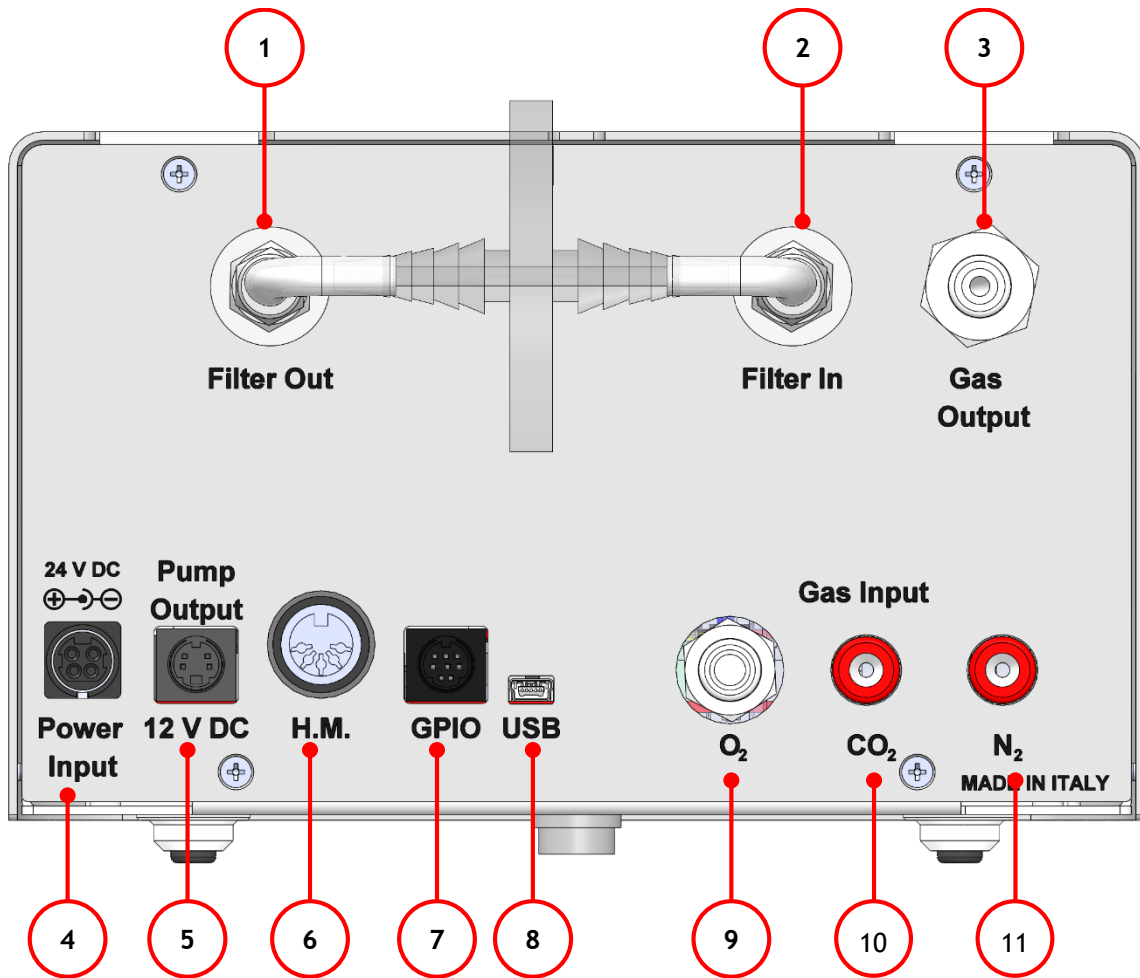
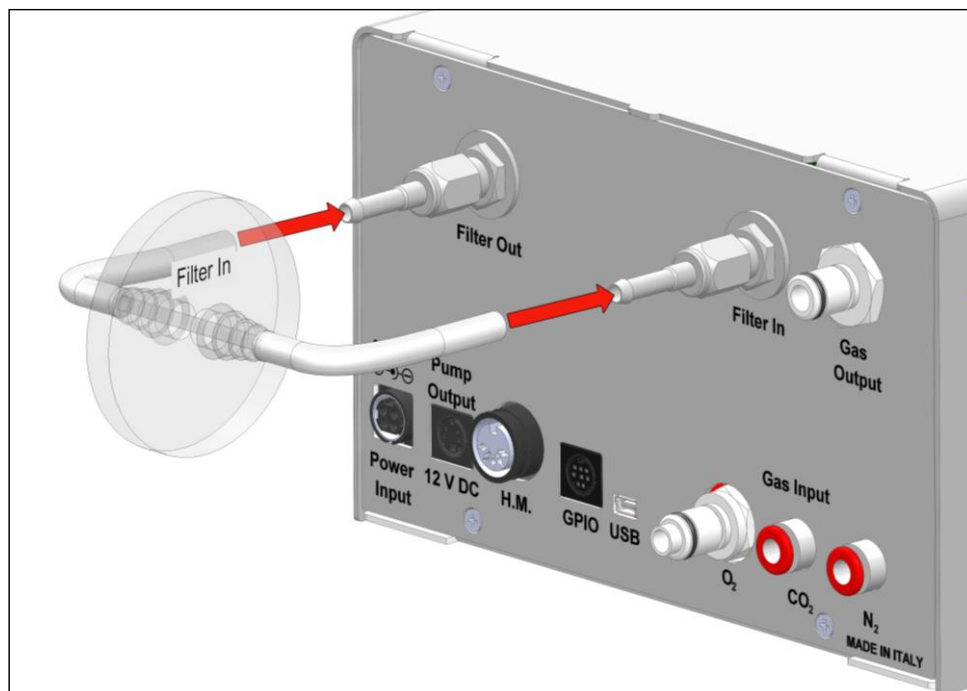
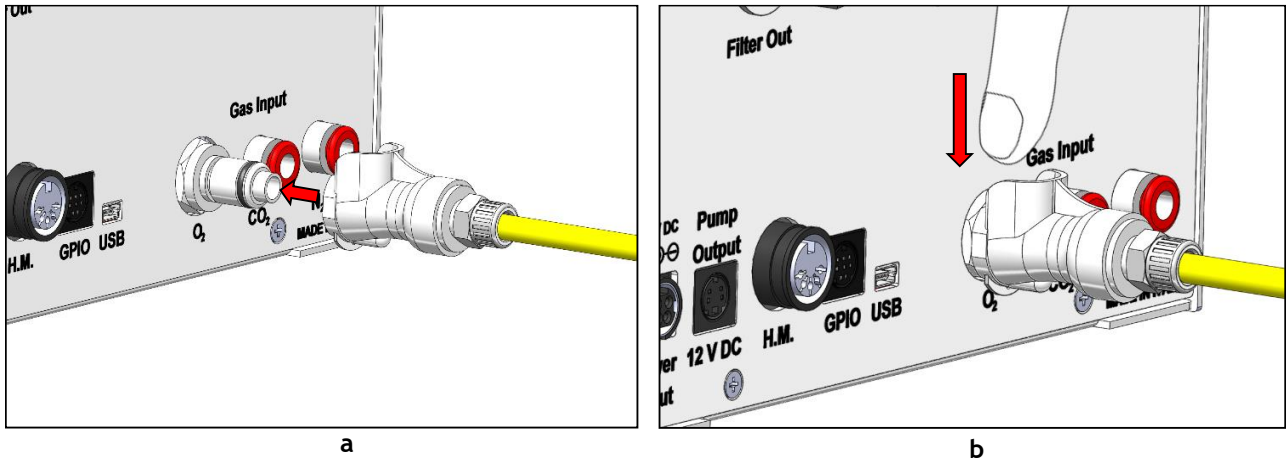

Figure 5. Gas Controller Rear Panel Overview.
Figure 9. How to install TUBE-CB.
Figure 11. How to connect (a) and disconnect (b) tubings from valved in-line connectors.
Figure 5 illustrated CO2-O2-UNIT-BL [0-20; 1-95] rear panel:
2. Install the **TUBE-CB** on the rear panel of CO2-O2-UNIT-BL [0-20; 1-95]. It filters the mixed gas before it enters in contact with CO2-O2-UNIT-BL [0-20; 1-95] gas sensors. Connect the TUBE-CB with the *Filter In* and *Filter Out* connectors on the rear panel of CO2-O2-UNIT-BL [0-20; 1-95] (1, 2 in Figure 5). Make sure the *Filter In* label side of the filter is always connected to *Filter In* connector on the rear panel of CO2-O2-UNIT-BL [0-20; 1-95] (see Figure 9).
4. Connect O₂ supply to the corresponding valved in-line connector on the rear panel of CO₂-O₂-UNIT-BL [0-20; 1-95] (9 in Figure 5) by using TUBE-AF. Push the valved in-line connector of TUBE-AF into O₂ Input on the rear panel of CO₂-O₂-UNIT-BL [0-20; 1-95] until you hear a lockout click (see Figure 11 a). Set O₂ pressure within the range 0.6 – 1 barg (8.7 – 14.5 psig).
To remove tubing from the connector, press on the metallic part on the top of the connector (see Figure 11 b).